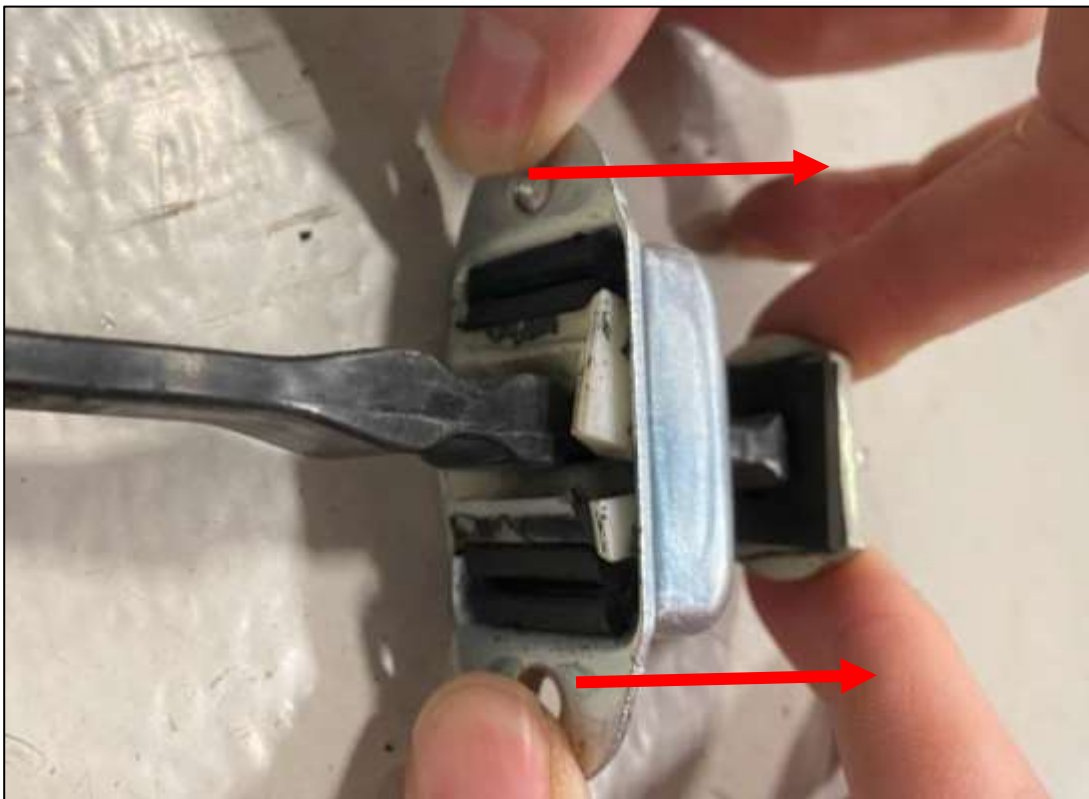

Figure 105
5. Push/pull the Silver Plate towards the back of the Check Link to remove the OE Door Stoppers. *Figure 105.*